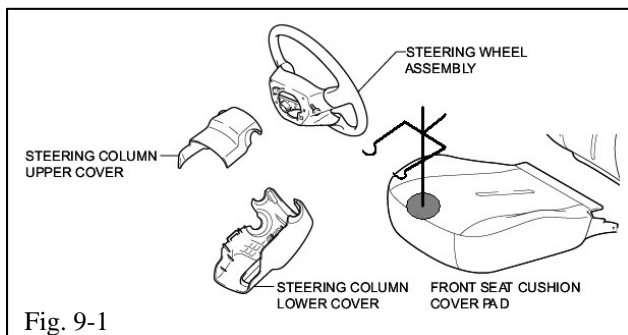

Fig. 9-1
**⚠ HINT:** Line up the horn pad with the plastic garnish covering the steering column (Fig. 9-1).